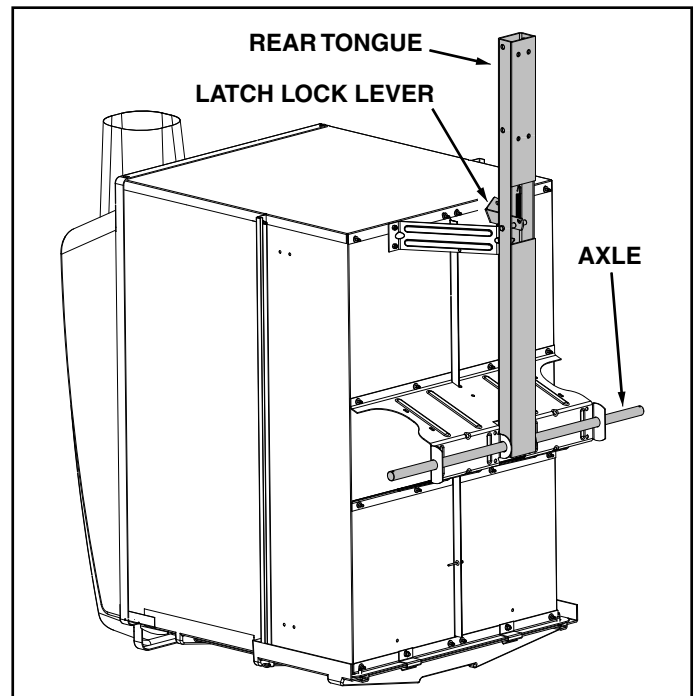

FIGURE 3
- 4. Install the rear tongue and the axle onto the cart body, sliding the axle through the wheel support and the tongue. Lock the tongue to the latch stand bracket with the latch lock lever. See figure 3.